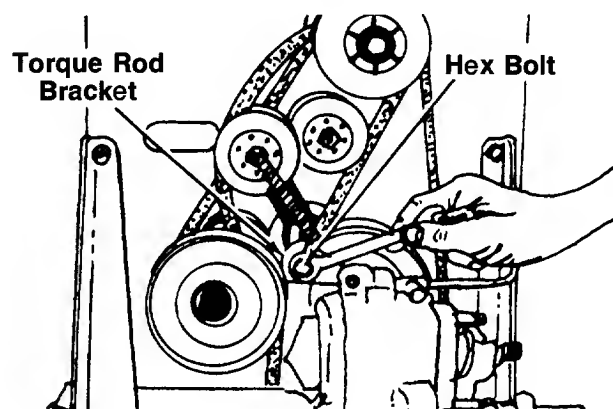

FIGURE 29.
4. Remove the hex bolt, nut and lock washer at the torque rod bracket and transaxle. See figure 29.
5. Remove the hex bolt which holds the torque rod bracket to the torque rod, and remove bracket. See figure 29.